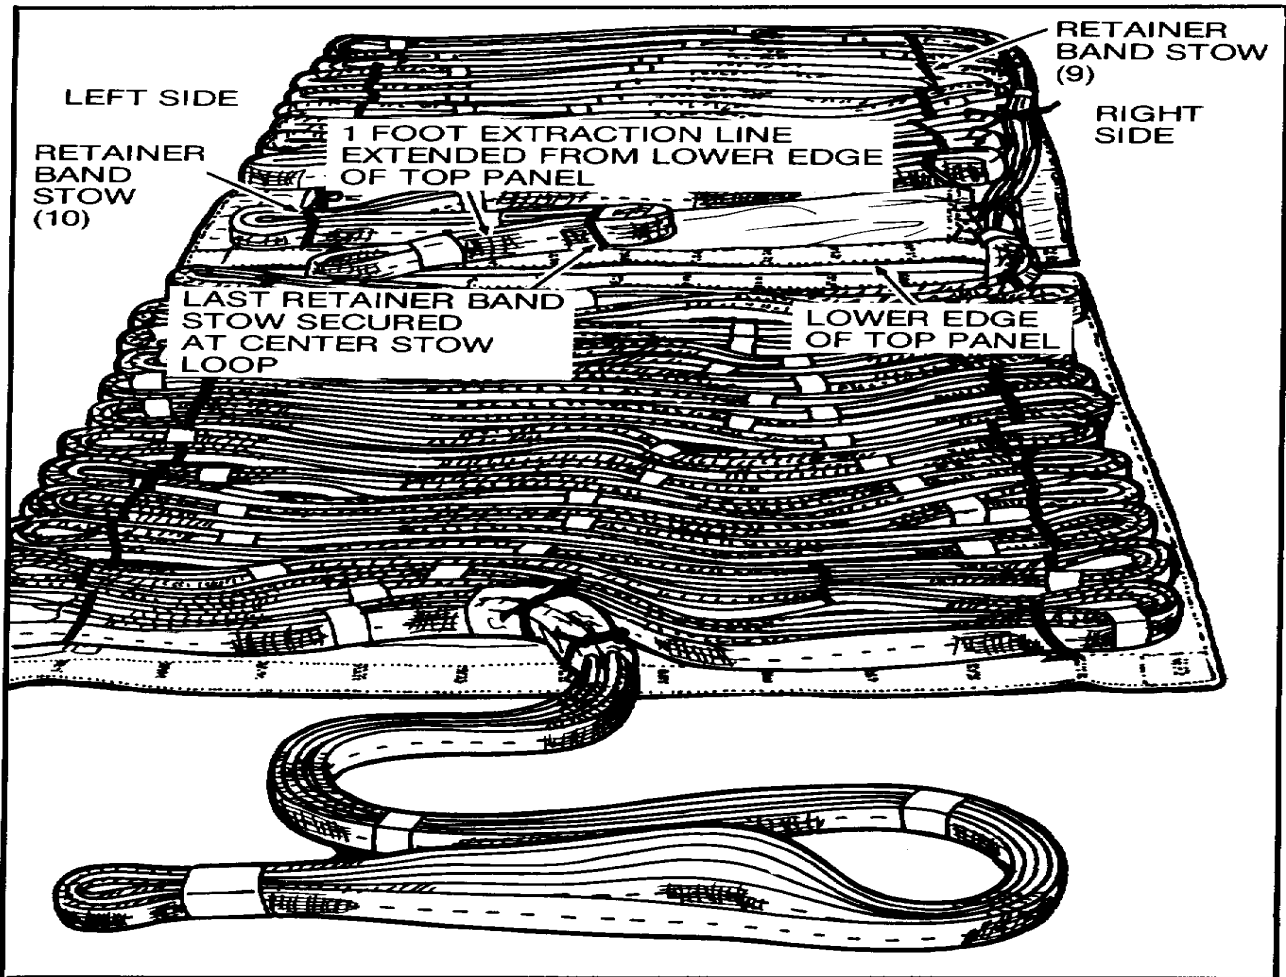

Figure 7. Extraction Line Stowed to Top Panel.
- h. Working from left to right, stow and secure remaining extraction line until approximately 1 foot extends from lower edge of top panel. Make and secure last stow to center stow loop at lower edge of upper panel. Secure last stow with rubber retainer band (figure 7).